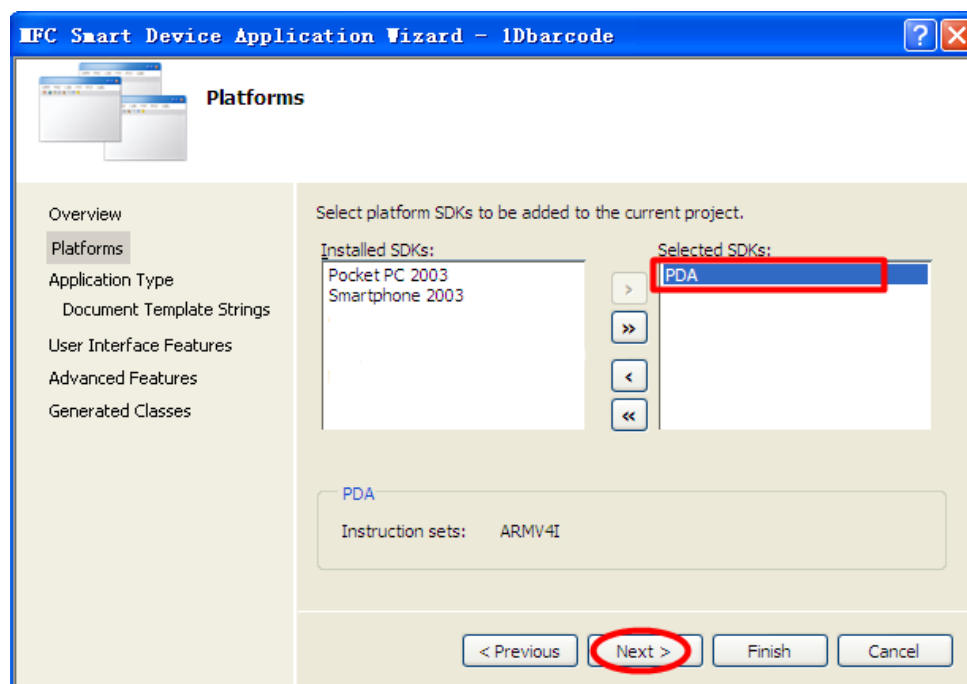

Figure6-1-13
5) Click **Next** to enter SDK to select platforms (Figure6-1-13), here you can move the platform named **PDA** to the right section and the ones to the left section.